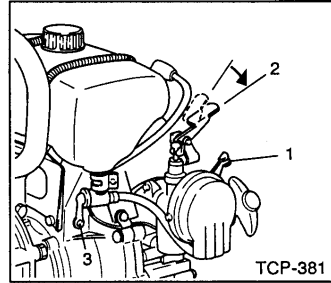
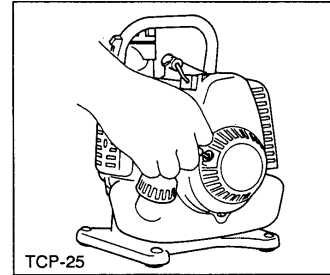

Fig. 2-3B
Fig. 2-4
*Open the Fuel cock (3). (TCP-381, Fig. 2-3B)
1. Set choke lever to CLOSED position (1).
2. Set the throttle lever to approximately 1/2 throttle opening (2).
3. Pull recoil starter briskly, taking care to keep the handle in your grasp and not allowing it to snap back. (Fig. 2-4)